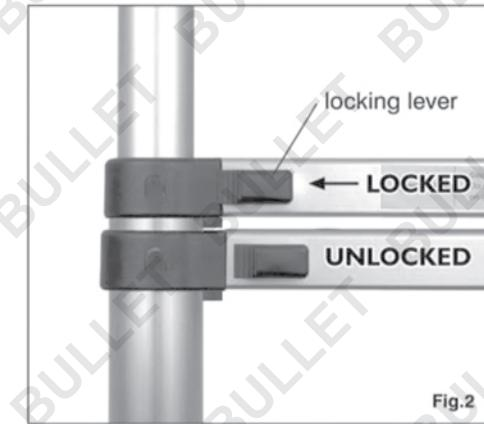

Fig.2
- Each mechanism is connected to a locking lever visible on the outside (see Fig.1). The locking levers have 2 purposes. They indicate whether the mechanism is locked (or not), and they serve as buttons for releasing the pins (lowering the ladder). A lever that is close to the side rail indicates the mechanism is locked. A lever away from the side rail indicates that it is NOT locked (see Fig.2).